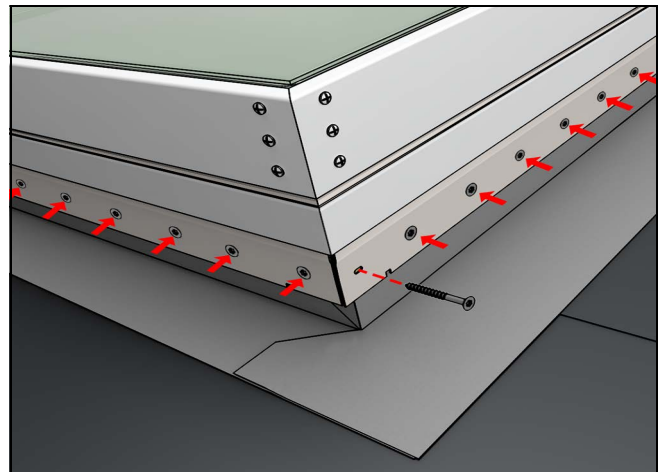

Figure 41
12. Center the unit on top of the curb and secure with appropriate fasteners, 1-1/2" roofing nails or a minimum #8 x 1-1/2" pan head stainless steel screws (exterior grade 1-1/2" screws). *Note: Apply downward pressure to the top of the skylight frame while securing the screws. Do not over tighten the screws.* See Figure 41.